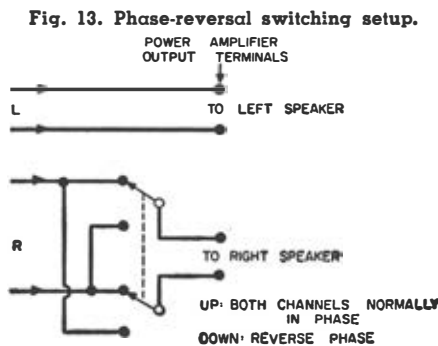
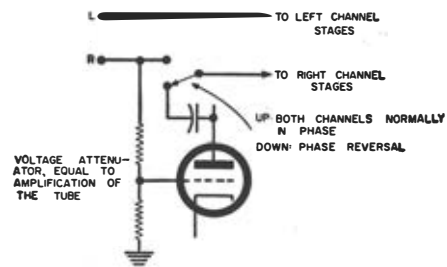

Fig. 13. Phase-reversal switching setup.
Fig. 14. Electronic phase reversal.
5. Phase Reversal: This permits the phase of one channel to be reversed 180 degrees. If the stereo amplifier is an integrated unit, containing power amplifiers, this can be accomplished by simply reversing the leads to one set of speaker terminals, as shown in Fig. 13. If the unit is solely a control amplifier, phase reversal must be accomplished electronically, as shown in Fig. 14, by an extra tube stage. The unwanted amplification is offset by a voltage attenuator, either a voltage divider at the grid, as shown in Fig. 14, or a